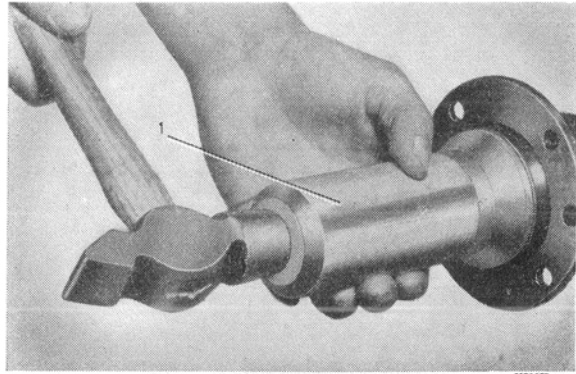

Fig. 21. Fitting the bearing ring.
3. Pack ball bearing grease into the rear axle bearings and insert the axle shafts (11). Drive in the outer bearing rings with the sleeve SVO 4157 as shown in fig. 21.